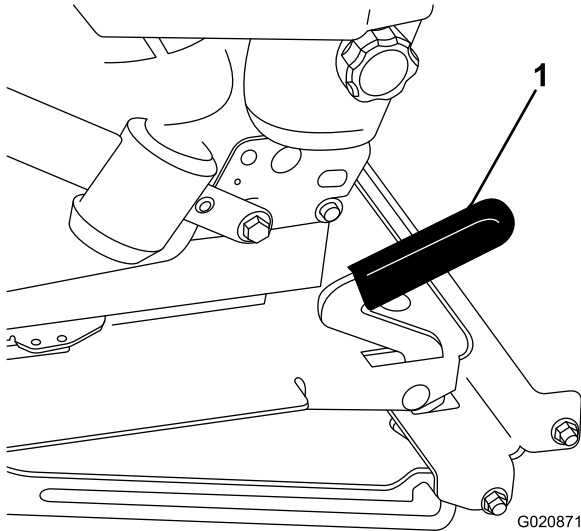

Figure 32
2. Pull the seat latch lever forward and lift up to unlatch the seat (Figure 32).